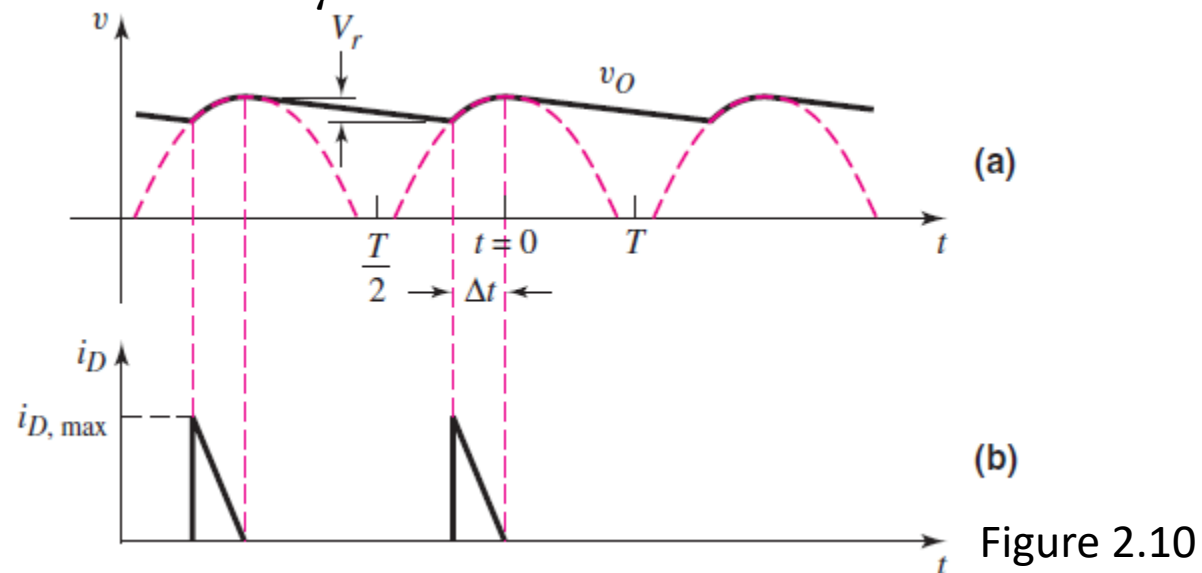

Figure 2.10
- Figure 2.10 shows the rectified output of a full-wave rectifier and the filtered output assuming ideal diodes ( $V_\gamma = 0$ ) in the rectifier circuit.
- During the diode conduction time near  $t = 0$  (Figure 2.10), we can write: